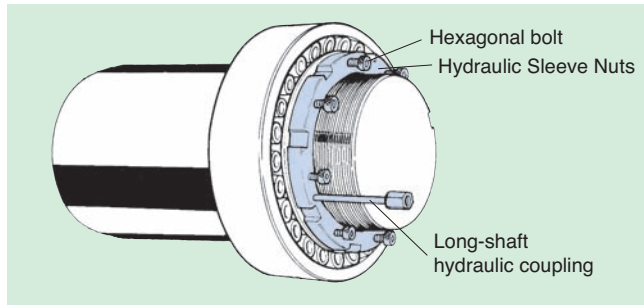

Fig. 15
- (4) Check that the holes in the hydraulic withdrawal sleeve, protective plate and installation nut are aligned along the same shaft, and connect the hose from the long-shaft hydraulic coupling and hydraulic pump (see **Fig. 15**).